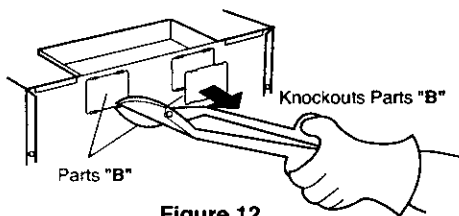

Figure 12
3. Use side cutters or tin snips to cut and remove knockouts part "B" from Back plate. Discard knockouts. Be careful not to distort the plate. See Figure 12.